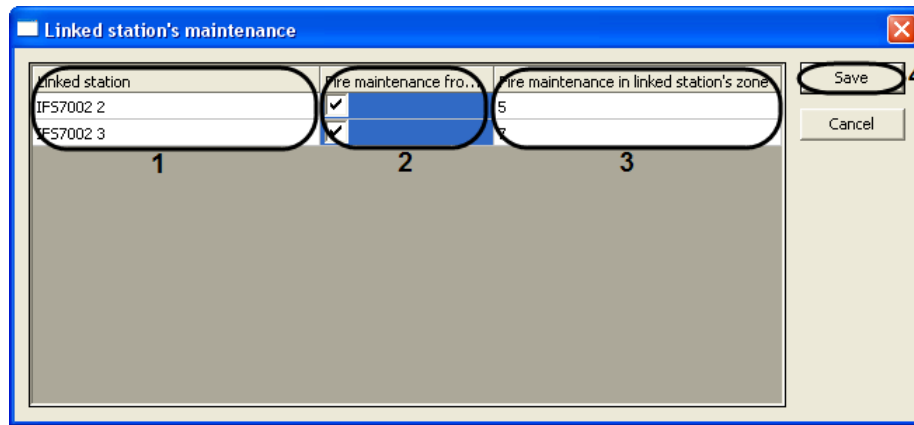

Fig. 3.7—4 The Linked station's maintenance dialog window
4. The “Linked station” column displays the list of the network FCPs (see Fig. 3.7—4, 1).